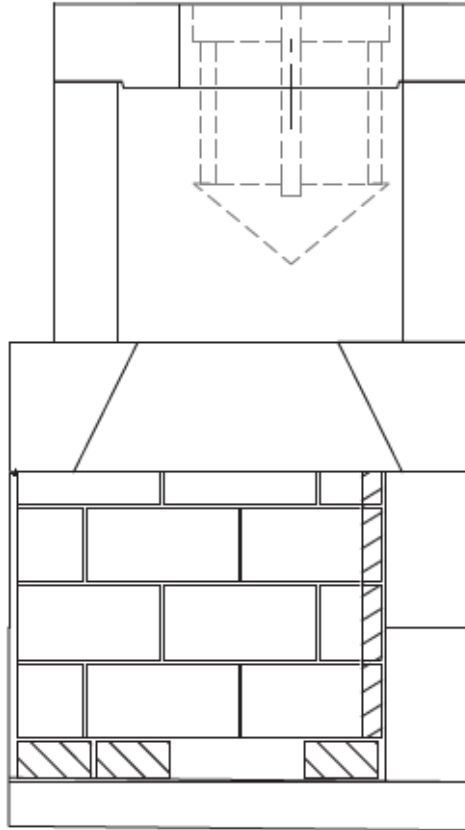

FIGURE 48
1. Starting approximately 1/2" from the rear of the firebox, **FIGURE 48**, lay one course of "full" sized firebrick on floor. Ensure a gap of approximately 1/2" is kept between firebrick and sidewall to allow for expansion.